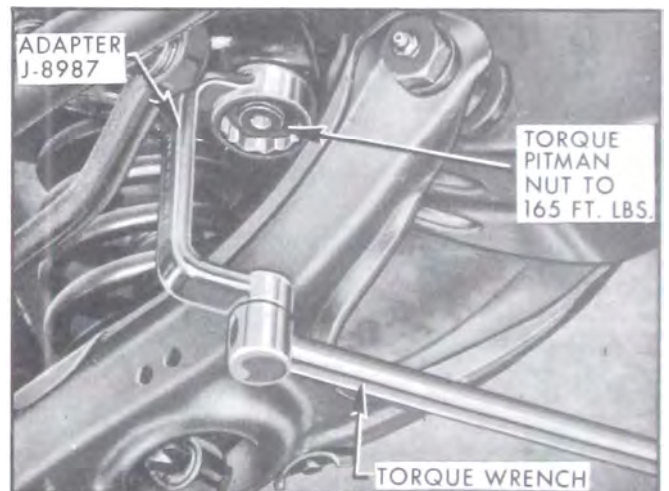

Figure 8-36—Torquing Pitman Arm Nut
4. Jack up car and remove pitman nut, using J-8987 adapter. See Figure 8-36. Disconnect pitman arm from intermediate rod by unscrewing end plug until socket bearing will release pitman arm ball socket.
5. Torque pitman nut to 165 ft. lbs., using adapter J-8987 on torque wrench. See Figure 8-36.